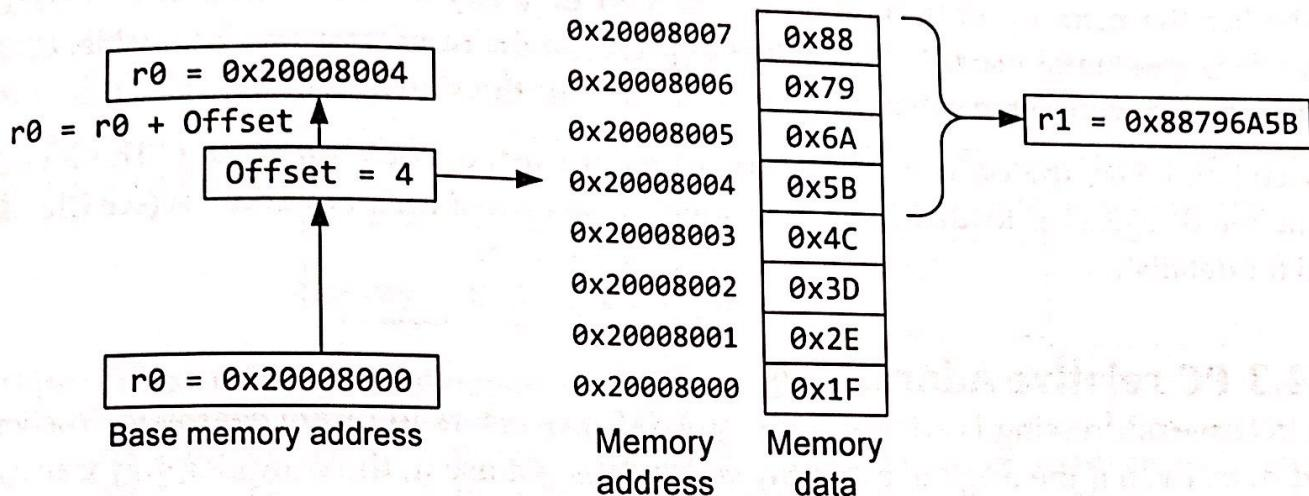

Figure 5-5. Pre-index with update ($r_1 \leftarrow \text{memory}[r_0 + 4]$, $r_0 \leftarrow r_0 + 4$)
- As shown in Figure 5-5, the value in register r_0 is incremented by the offset after loading. Both the post-index and the pre-index with update change the base memory address. However, different with the post-index, the pre-index with update retrieves the word from the memory address $0x20008004$, instead of $0x20008000$.